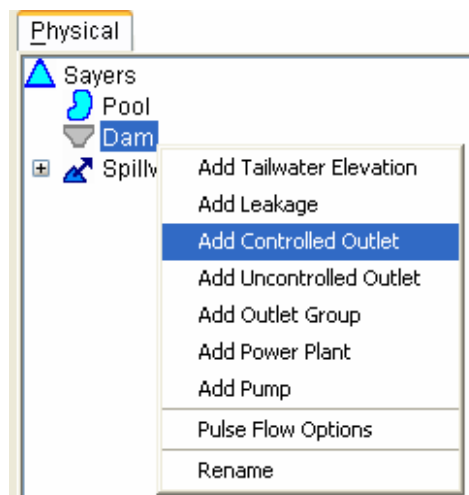

Figure 10.13 Dam Shortcut Menu: Add Controlled Outlet
On the Physical tab, you may use either the component-specific menus in the Reservoir Editor's menu bar or the right-click shortcut menus (Figure 10.13) to add a **Controlled Outlet** as a component of a **Dam**, **Diverted Outlet**, or **Outlet Group**.
2. Choose **Add Controlled Outlet** from the shortcut menu (Figure 10.13) or from the component's menu in the Reservoir Editor's menu bar.